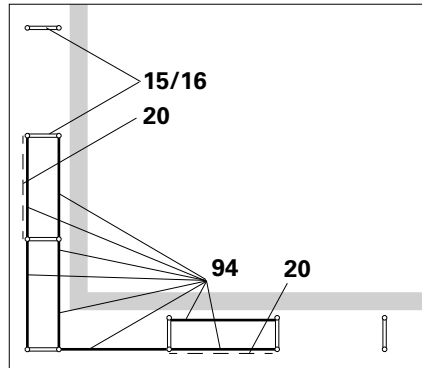

Fig. B6.01a
In this version of the assembly process, the decks on the base level are taken out again. (Fig. B6.01a)
2. Fit two Horizontal Ledgers UH-2 (94a) into the continuous scaffold bay (A). Secure the wedges.
3. Connect the adjacent scaffold bay (B) with one horizontal ledger (94).
4. In both of the following bays, fit two Horizontal Ledgers UH-2 (94b) (one diagonal is installed in each of these bays). (Fig. B6.01a)
5. Attach Tube EVR 150 (18) together with the Easy Frame EVF (16). The guardrail hook (18.1) on Tube EVR 150 (18) points inwards in the direction of the continuous scaffold.
6. Attach the guardrail post (51).
- For the arrangement of horizontal ledgers and face braces, see Fig B6.01a + B6.01b.